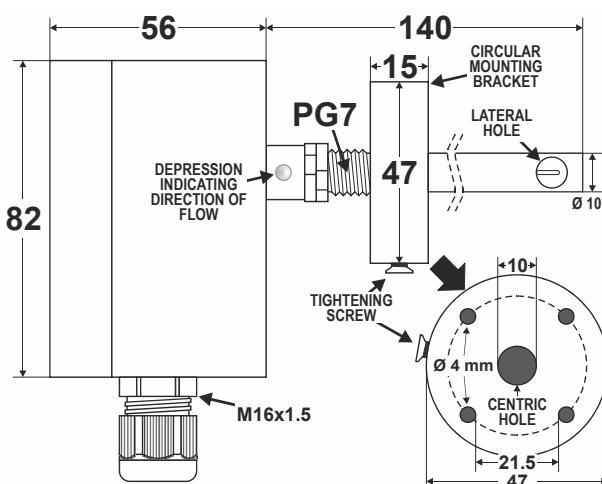

Fig. 1. KSL, dimensions (mm)
- Rotate the device to ensure that the air flows through the lateral opening at the tip of the probe. Specifically, the small depression (see Fig. 1) should face towards the oncoming air.
- Finally, securely fix the device in place using the tightening screw (see Fig. 1).